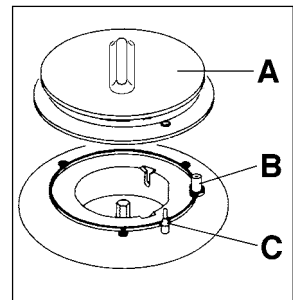

Fig. 1
- Upon ignition, keep the knob pushed down about **5 seconds**. This will allow the "thermocouple" (fig. 1 - letter C) to be heated and the safety device to be switched off, otherwise the gas supply would be interrupted.
The electric ignition is obtained through a ceramic "electrode" and a metal electrode (fig. 1 - letter B). Keep these components well clean, to avoid difficult lighting, and check that the burner crown holes are not obstructed.